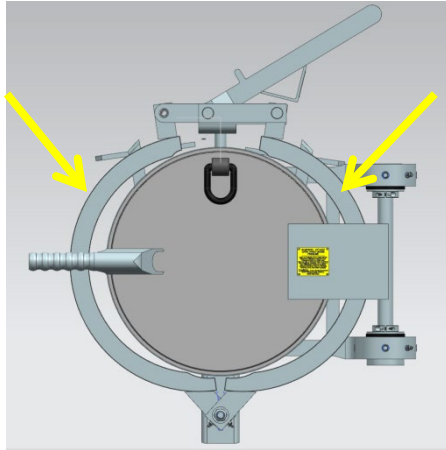

Figure 10: Clamp Ring Segments
C. Open clamp ring segments, see Figure 10.